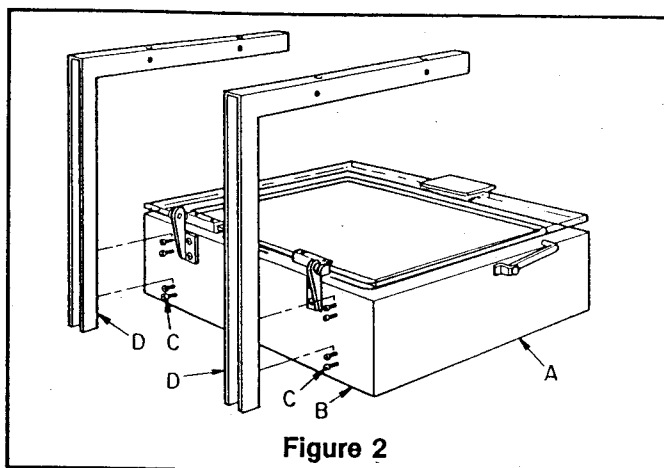
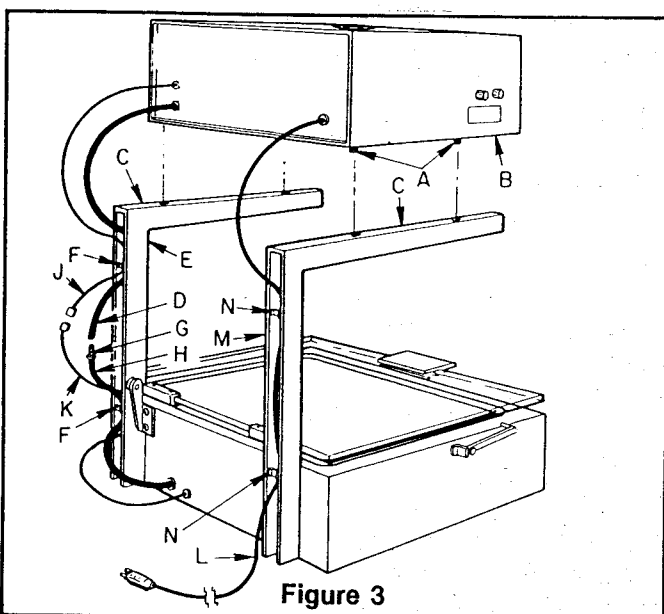
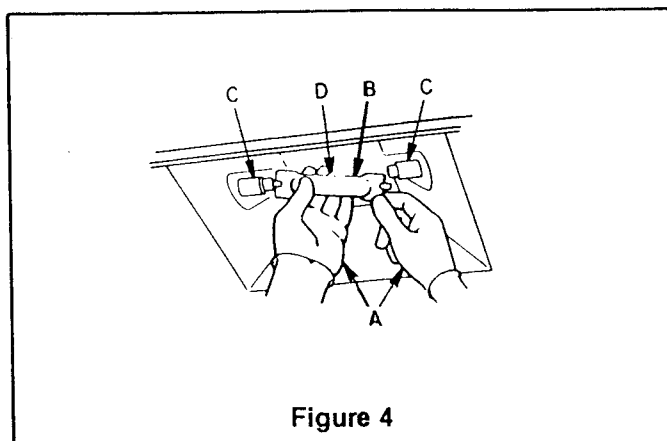

Figure 2
Figure 3
Figure 4
2. Set base of unit (A-Fig. 2) on table, counter or nuArc Floor Stand (Model NFS3-see instruction sheet #696) with back side (B-Fig. 2) facing you.
4. Loosen the four screws and washers (C-Fig. 2) on each side of the back of the base as shown.
5. Attach the two (2) L-shaped support arms (D-Fig. 2) to the base, using this hardware (C-Fig. 2). Do not completely tighten these screws as you will need some flexibility when attaching the light source housing to the L-shaped arms (in Step 6).
6. Loosen the 2 screws and lock washers (A-Fig. 3) from each side of the light source housing (B-Fig. 3). Place the light source housing on top of the support arms (C-Fig. 3), lining up the holes in the support arms with the loosened screws.
7. Secure the housing (B-Fig. 3) to the support arms (C-Fig. 3) by tightening down the hardware (A-Fig. 3). Tighten down completely. Next, finish tightening the screws in Step 5 (C-Fig. 2).
8. Run the top half of the rubber vacuum hose (D-Fig. 3) down the left channel (E-Fig. 3) of the support arm bracket so that it slips behind the braces (F-Fig. 3). Connect the vacuum hose (D-Fig. 3) to the plastic connector (G-Fig. 3) on the end of the lower portion of the vacuum hose (H-Fig. 3) which has been run up behind the lower brace.
9. Run the top half of the vacuum pump electrical cord (J-Fig. 3) down the left channel of the support arm and connect it to the bottom half of the cord (K-Fig. 3).
10. Run the main power cord (L-Fig. 3) down the channel (M-Fig. 3) of the right support arm bracket so that it is secured behind the two braces (N-Fig. 3).
11. Turn the unit around so the front side faces you. Next, you must install the 1000 watt GW114 Mercury Lamp. Using the white gloves (A-Fig. 4) provided, insert Lamp (B-Fig. 4) into the spring-loaded tube holder (C-Fig. 4). Make sure the protrusion on the lamp (D-Fig. 3) is to the side, not pointing above or under.
3. Attach the legs (A-Fig.2) to the floor stand shelf (B-Fig.2) as shown, using the clear plastic washer and screw (C-Fig.2) provided. Do not tighten down completely at this point.
4. Place the base of the exposure unit (A-Fig.3) on its side as shown in Figure 3. Remove the hardware (B-Fig.3) from the sides of the base. Slide the 4 legs (C-Fig.3) of the floor stand into the corners of the base (A-Fig.3), lining up the 2 holes (D-Fig.3) on the base with the holes in the mounting brackets (E-Fig.3). Using the hardware removed from the base, secure the legs to the base. Tighten these completely.
5. Next, tighten the screws in the floor stand shelf (F-Fig.3) left loose in Step #3.